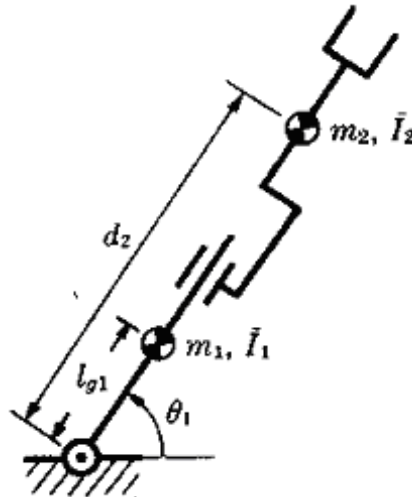

Figure 1:
5. Derive the equations of motion for the two link manipulator in figure 1 using the Lagrangian-Euler formulation. Let l_{g1} be the distance between joint 1 and the center of mass of link 1, let m_1 be the mass of link i , and let \tilde{I}_i be the moment of inertia about the center of mass of link i . Assume that gravity acts vertically downward. [16]